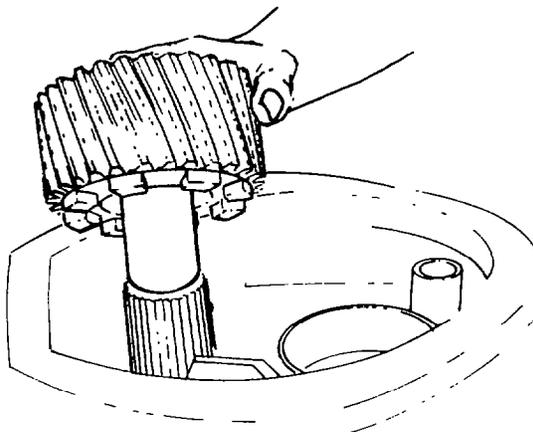

Fig. 260 — Installing Front Drive Gear
- ac. Install the front drive gear onto the front drive shaft (teeth towards the rear)(see fig. 260).